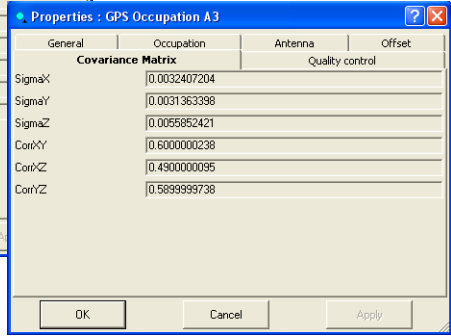

Figure 5-113. Covariance Matrix for Different Occupations
- The *Covariance Matrix* tab (Figure 5-113 on page 5-79) displays six elements of covariance matrix for the single occupation, where: